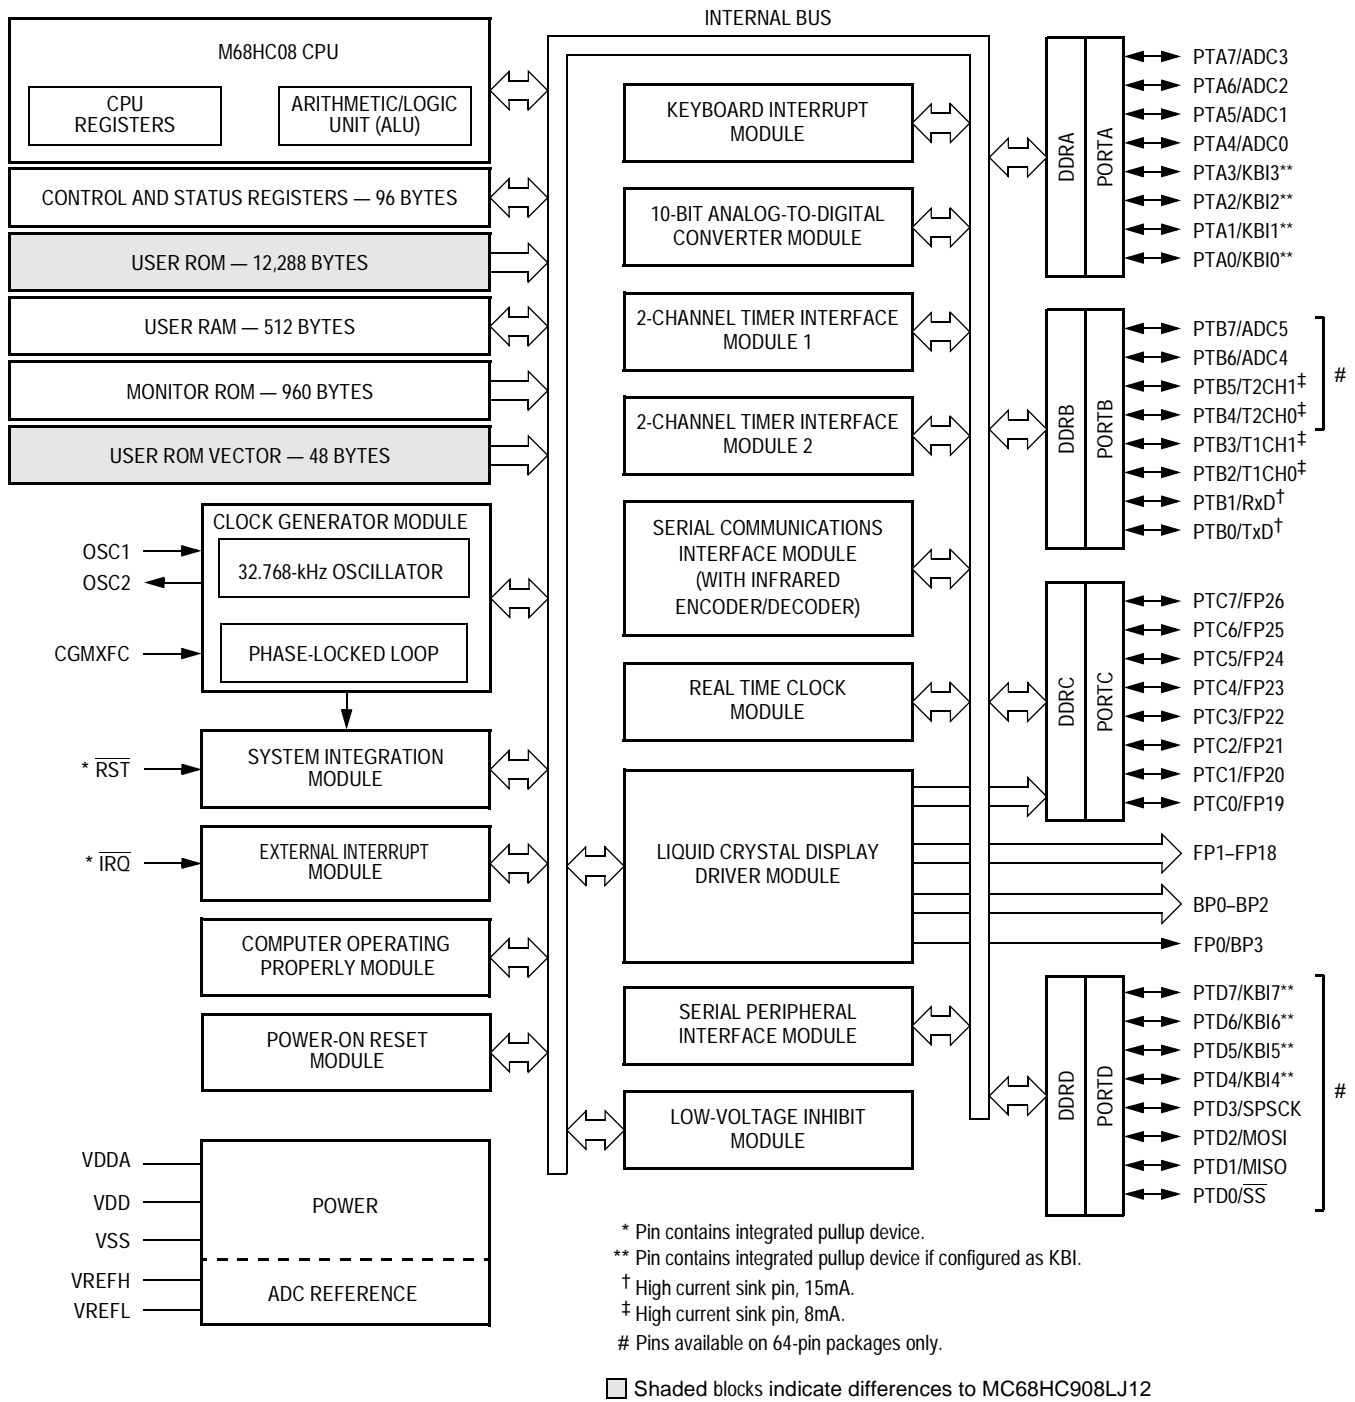

Figure 4. MC68HC08LJ12 Block Diagram
**MCU Block Diagram** Figure 4 shows the block diagram of the MC68HC08LJ12.